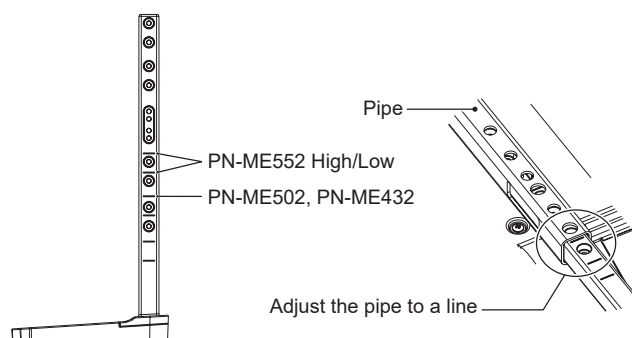

Figure 1
1. The lines on the stand pole are indicators of the height adjustment (Figure 1). Please adjust the pipe to the lines.